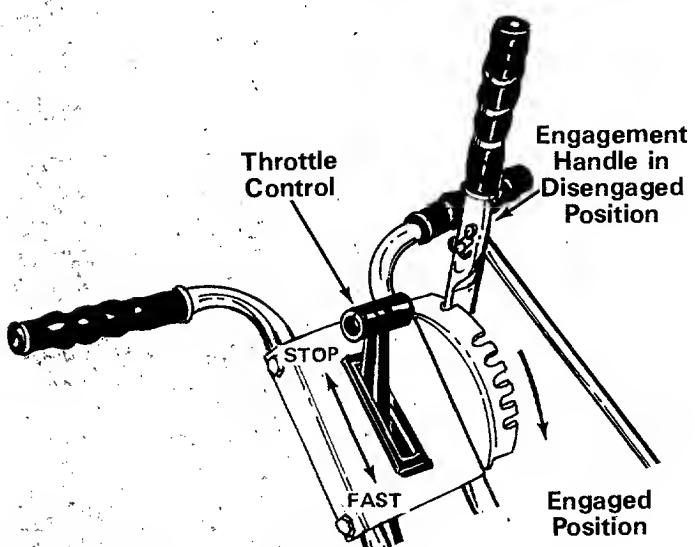
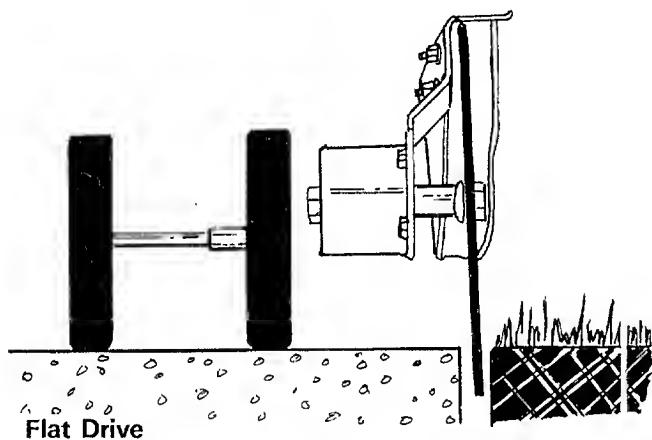

FIGURE 12
FIGURE 16
The throttle control lever is located on the handle panel. It regulates the engine speed and stops the engine. See figure 12.
The engagement handle controls the clutching and declutching of the belt. To declutch, the handle is pulled back toward the operator. The farther forward the handle is pushed, the deeper the cut. To move the engagement handle, first move it to the left so the handle is out of the notch. See figure 12.
3. Move the engagement handle (depth control) back as far as it will go and place in the last notch. See figure 12.
- Set the adjustment lever (refer to figure 12) in the second notch at the top to edge vertically. See figure 16.